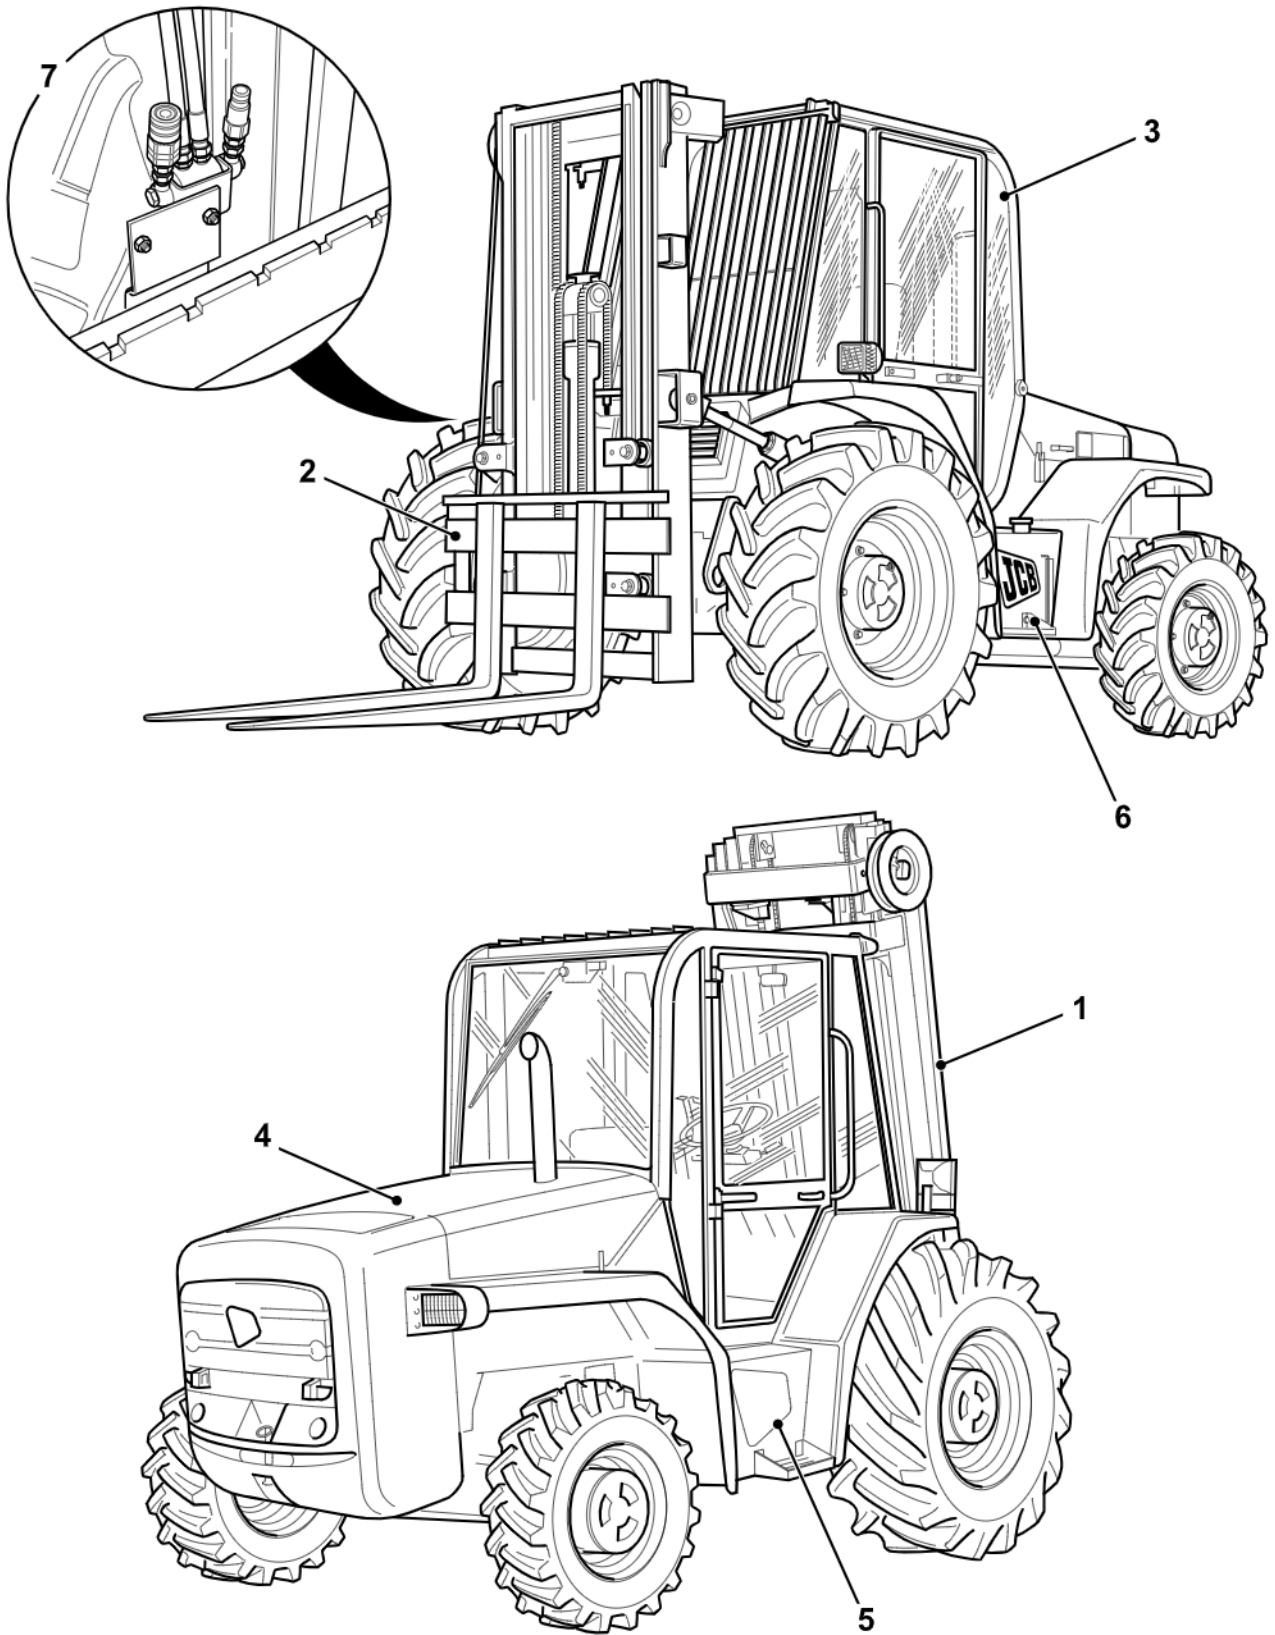

Fig 2.
- Items 1 to 7: → Fig 2. \(□ 3\).